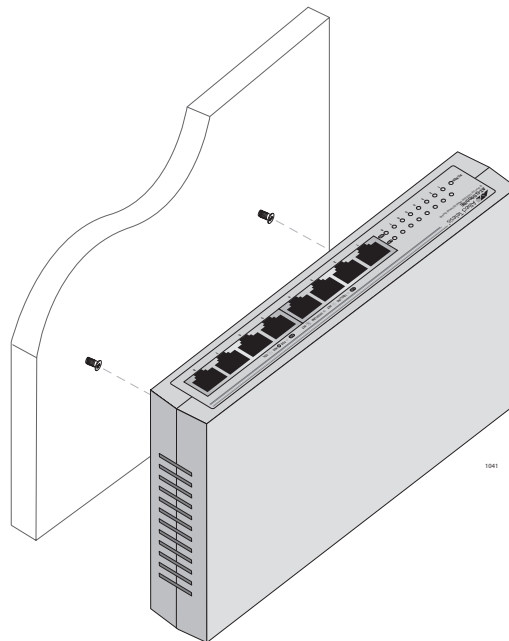

Figure 8. Aligning an AT-GS900/8E for Wallmount Installation
6. Align the switch horizontally, as illustrated in Figure 8..